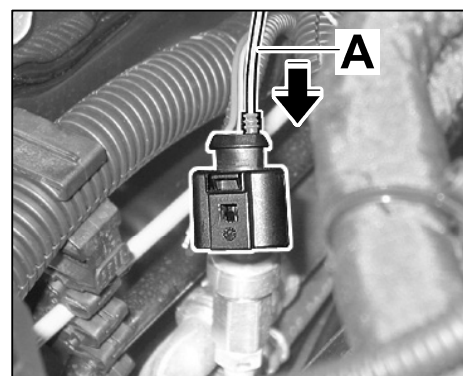

Figure 32
- 4.7.3 Insert socket contact of line (BU/YE) ⇒ *Figure 32 -A-* from the retrofit kit into chamber 3.